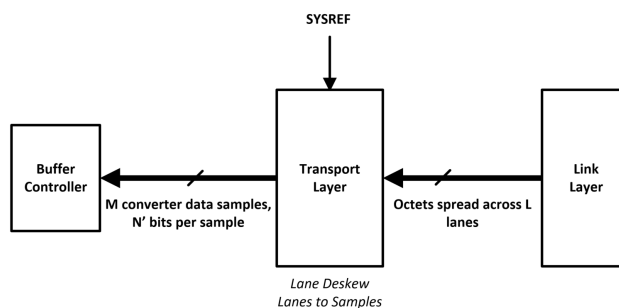

Figure 61. High-Level Overview of the Transport Layer in a Deframer
The transport layer of a deframer is responsible for de-skewing the lanes, unpacking the octets that are spread across L lanes and combining them into M converter data samples, consisting each of N' bits. The mapping changes depending on the number of lanes (L), the number of converters (M), the samples bit width (N'), and the number of samples per converter (S). The transport layer also handles the SYSREF signal that is used to achieve deterministic latency. Figure 61 shows the transport layer in a deframer.